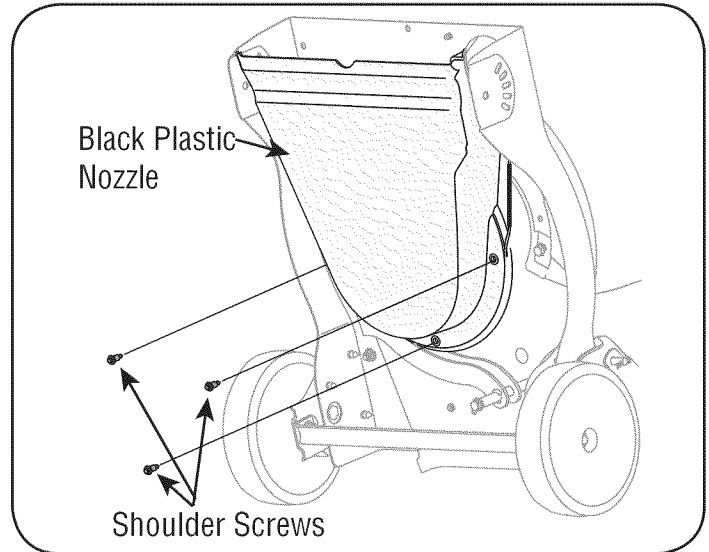

Figure 26
7. Carefully tilt and support the unit up to provide access underneath to the nozzle mounting hardware and impeller. Remove the three shoulder bolts securing the black plastic lower flail housing to the lower housing. Refer to Figure 26.